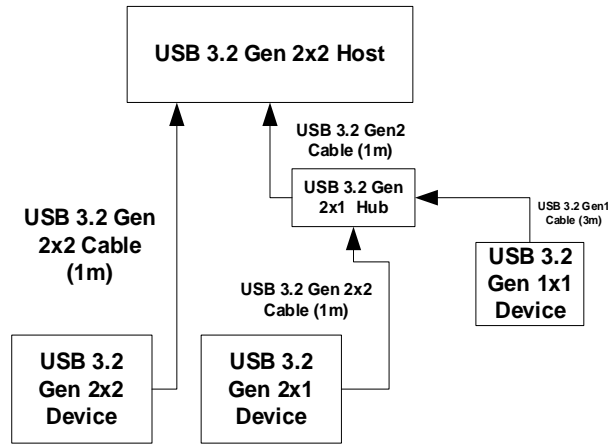

Figure 13-3: Host Root Port Testing with Multiple Devices (of various speeds) and Hub
- Connect one USB 3.2 Gen 2x2 Device at root port, and a USB3.2 Gen 2x1 Hub (with devices connected to the downstream facing ports of the Hub) to another port of the USB 3.2 Gen 2x2 host (see Figure 13-3)